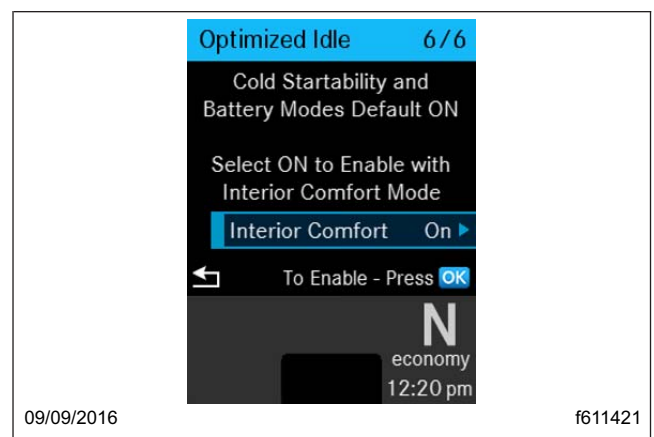

Fig. 10.3, Optimized Idle Mode Selection Screen
6. Press OK on the steering wheel switch pod to view the mode option screen. See Fig. 10.3.